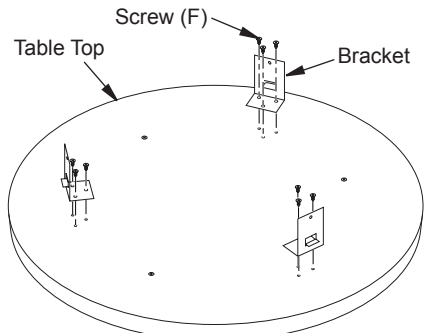

Figure 9 - Table Top Assembly
16. Lay table top upside down on a blanket or piece of cardboard to prevent scratching. Attach 3 brackets with 9 self tapping screws (F) as shown in Figure 9.